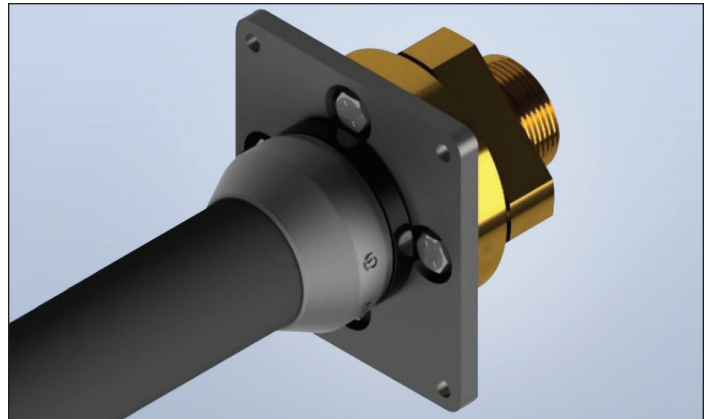

Figure: 1-8
10. In a quick motion, pull the Flip Sleeve Assembly forward. This will untuck the Flip Sleeve onto the outer jacket. Slide up and hand-tighten the Flip Sleeve Assembly into the Back Flange (Figure 1-8). With the Flip Sleeve Assembly installed, there will be no exposed stainless steel.